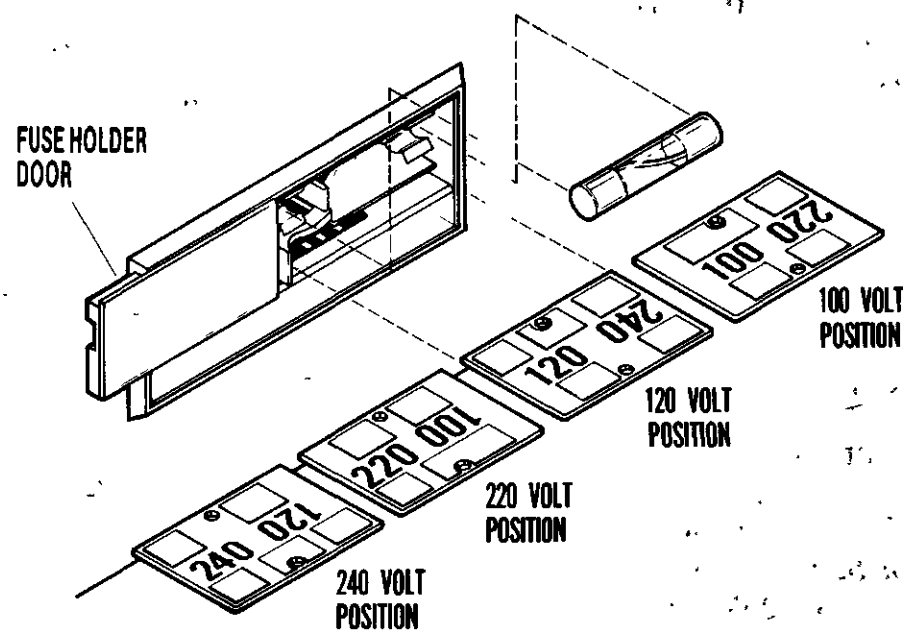

Figure 2-11. Voltage Switching Card Orientation
16. Check voltage stickers on disk drive; voltage must match your available commercial power. On rear panel of disk drive, disconnect power cord (if connected) and slide fuse holder door on main power socket to left as shown in figure 2-11. Remove voltage switching card and reinstall it in position corresponding to your available commercial power. Verify that proper
17. On rear panel of Model 22X/23X, disconnect power cord (if connected) and slide fuse holder door on main power socket to left as shown in figure 2-11. Remove voltage switching card and reinstall it in position corresponding to your available commercial power. Verify that proper fuse is installed: 6.25A slow-blow fuse for 100V or 120V; 3A slow-blow fuse for 220V or 240V. Close fuse holder door and install power cord.